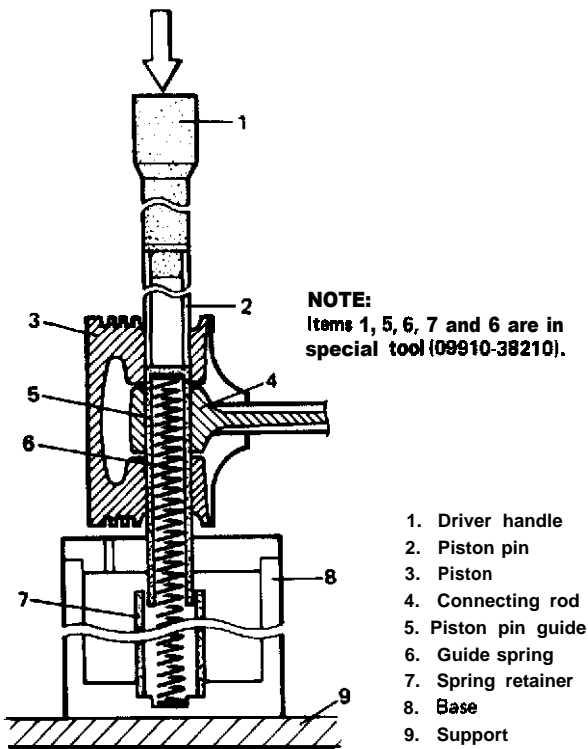

Fig. 3-6-14 Ins tating piston pin
- ② Place piston on piston pin remover and installer (special tool) as indicated in Fig. 3-6-13, and press piston pin into piston and connecting rod (Fig. 3-6-14).